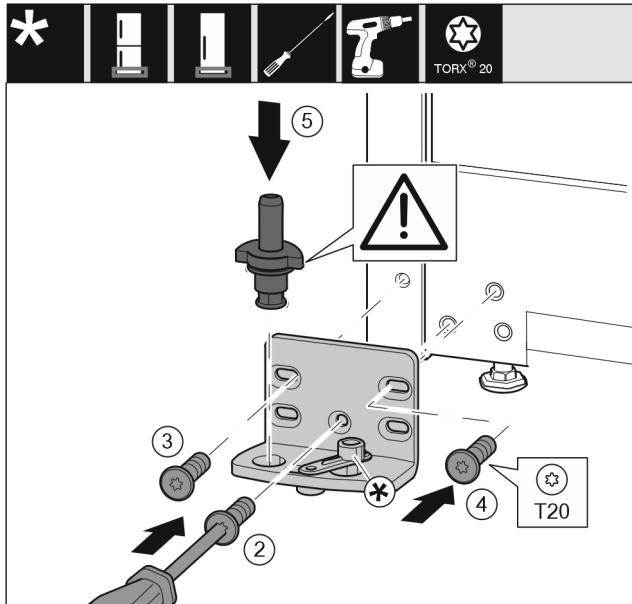

Fig. 18
- Attach the swap bearing block onto the other side and screw it on using a screwdriver. Start with the screw Fig. 18 (2) at the bottom center.
- Tighten screw Fig. 18 (3) and screw Fig. 18 (4).
- Insert the bearing pin Fig. 18 (5) completely. In the process, make sure that the latching cam shows towards the rear.